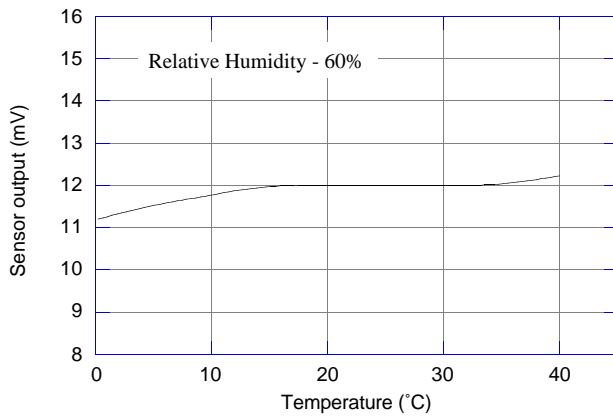

Fig. 2 - Temperature vs. output voltage characteristics of KE-25 (typical values)
- Fig. 2: Temperature versus output voltage characteristics